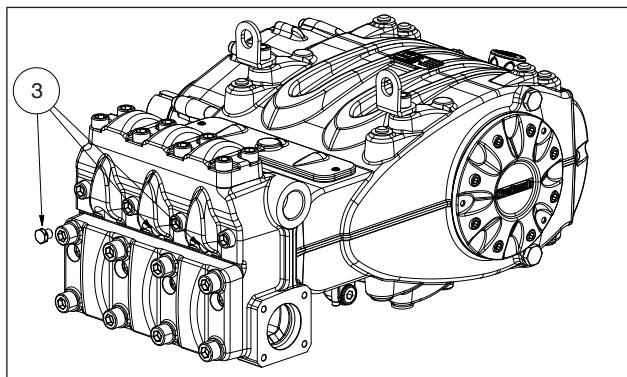

Fig. 11
Should there be any priming trouble due to insufficient supply, it is possible to remove the three plugs in front of the head as shown in pos. ③ Fig. 11.